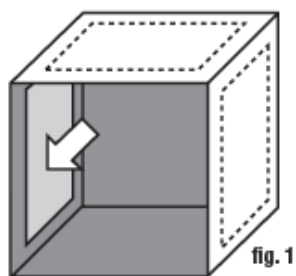

fig. 1
- Install the PAR Vibration Control Tape to the inside of the top and side walls of the housing (fig. 1).